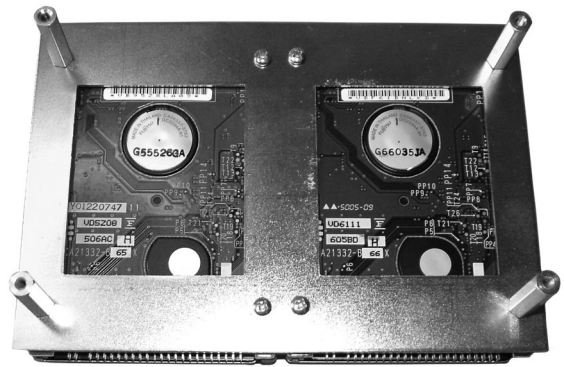

Fig. MM-4
5. Screw the remaining standoffs through the drive mounting plate into the top-left and bottom-left threaded holes with the spacers. When you're done, the hard drive subassembly should look like **Fig. MM-4**.